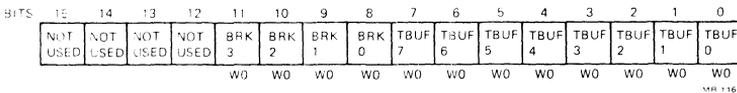

Figure 9 Transmit Data Register Bit Assignments
**Transmit Data Register** – The transmit data register (TDR) is a byte- and word-addressable, write-only register. Characters for transmission are loaded into the low byte. TDR bit 0 is the least significant bit. Loading of a character should occur only when transmitter ready (CSR bit 15) is set. The character that is loaded into this register is directed to the line defined in CSR bits 8 and 9. The high byte of the transmit data register is designated as the break control register. The bit designations are shown in Figure 9.